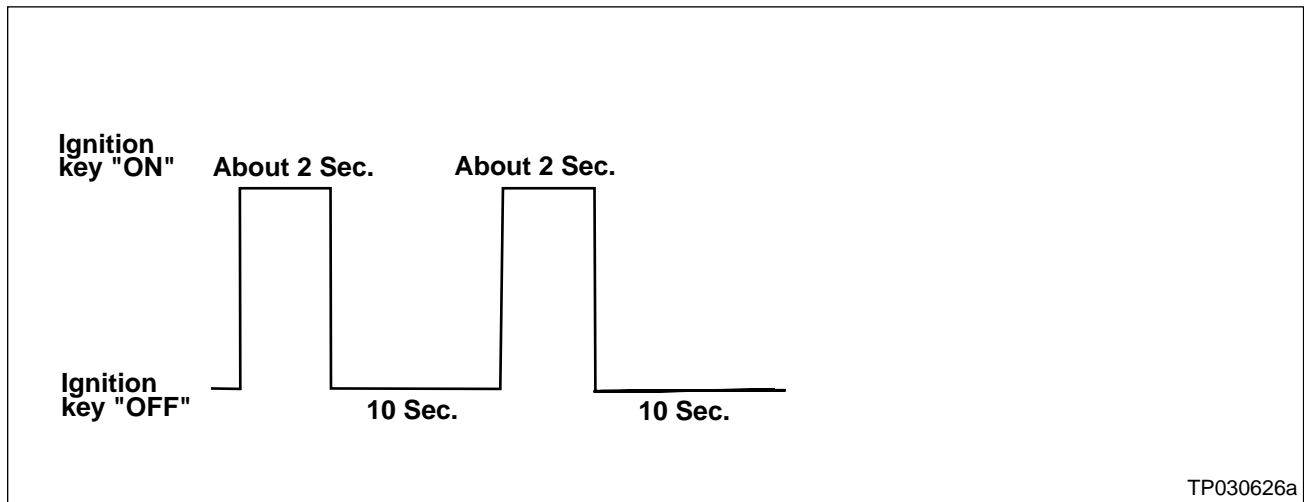

Figure 7
- b. Turn the ignition switch "OFF" again for 10 seconds (see Figure 7).